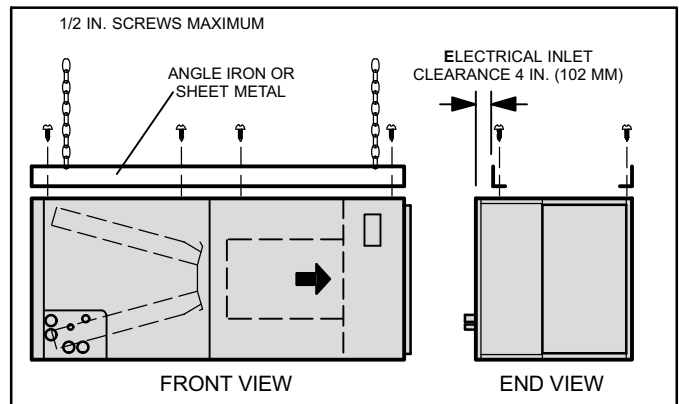

Figure 3. Suspending Horizontal Unit
2. If the unit is suspended, the entire length of the cabinet must be supported. If you use a chain or strap, use a piece of angle iron or sheet metal attached to the unit (either above or below) to support the length of the cabinet. Use securing screws no longer than 1/2 inch (12.7mm) to avoid damaging the coil or filter as illustrated in figure 3. Use sheet metal screws to connect the return and supply air plenums as required.
14. If suspending the unit, it must be supported along the entire length of the cabinet. If using chain or strap, use a piece of angle iron or sheet metal attached to the unit (either above or below) so that the full length of the cabinet is supported. Use securing screws no longer than 1/2 inch (12.7mm) to avoid damage to coil or filter as illustrated in figure 3 on page 6. Connect return and supply air plenums as required using sheet metal screws.